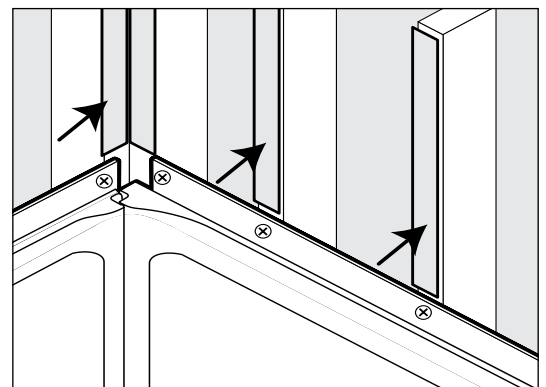

FIGURE 11. Shim studs.
- Shim studs with lattice strips or 1/4" luan so that finishing board will overlap nail flanges. (Fig. 11)